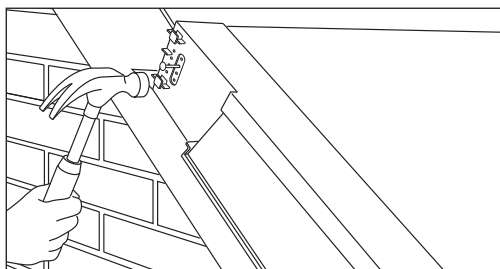

Fig 4 Nail fix verge unit
- 7 Nail the verge unit to the tiling batten using the appropriate hole (nearest to the centre of the tiling batten) with 40mm x 3.35mm annular ring shank nail provided in the fixing kit (Fig 4).